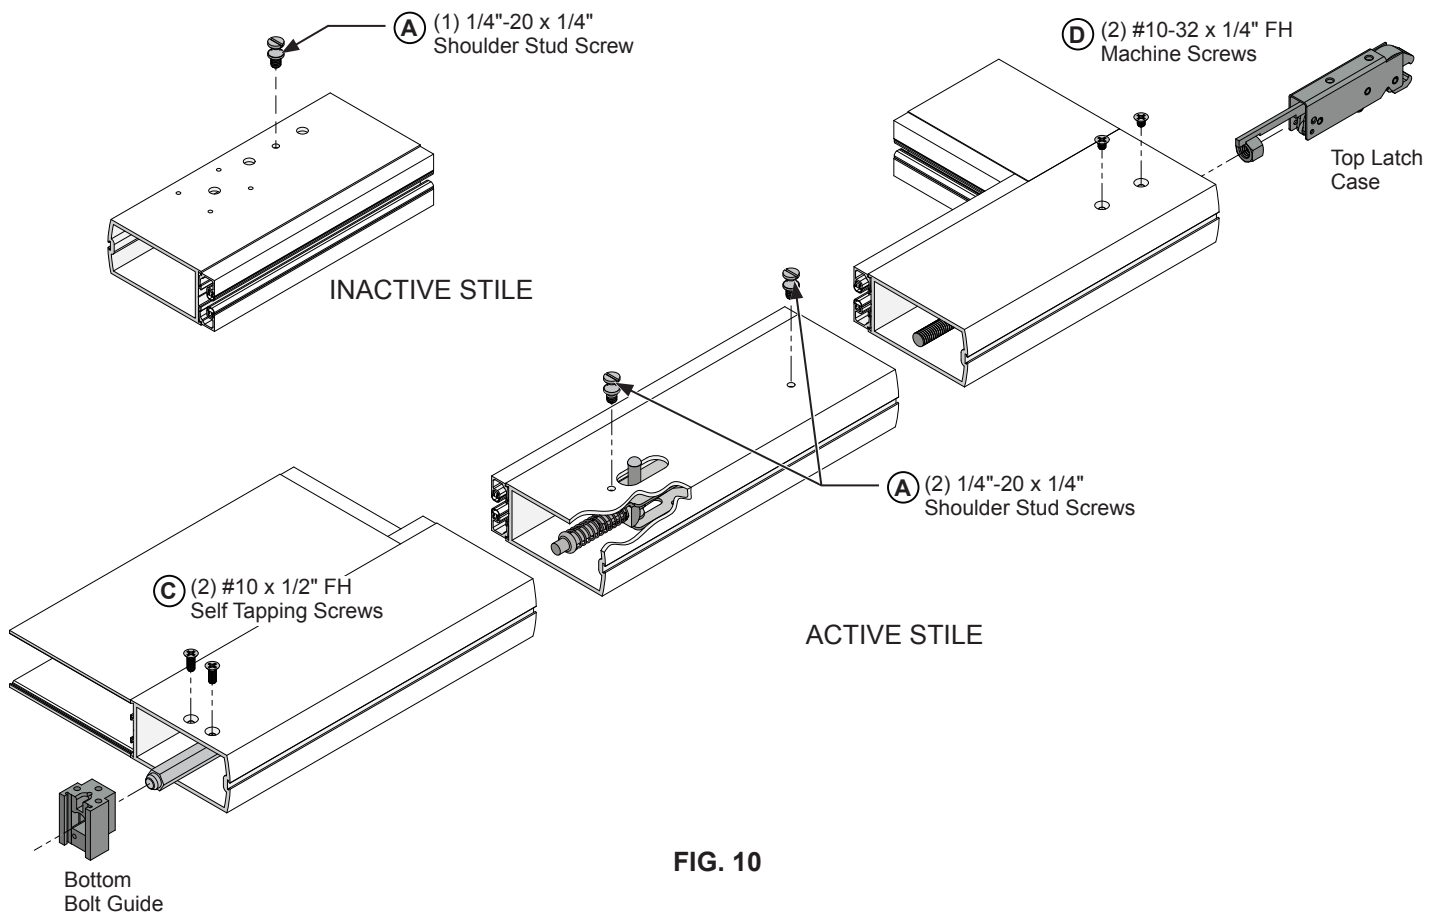

FIG. 10
2. Align actuator pin through the slotted cut-out on interior face of Active Stile, fastening with (A) (2) 1/4"-20 x 1/4" shoulder stud screws. (Fig. 10)
4. Install the top latch case assembly using (D) (2) #10 x 1/4" FH self threading screws at the top of the active door stile. The (2) holes face the interior side.
5. Install the bottom bolt guide assembly using (C) (2) #10 x 1/2" FH self threading screws at the bottom of the active door stile. The (2) holes face the interior side of stile.
6. Attach (A) (1) 1/4"-20 x 1/4" Shoulder Stud Screw on the Inactive Stile.